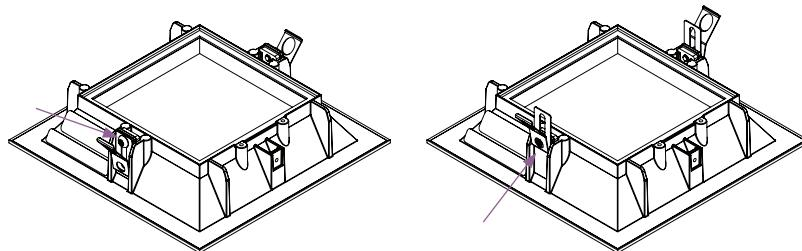

fig. 12
- c. Re-tighten the screw (see fig. 12).